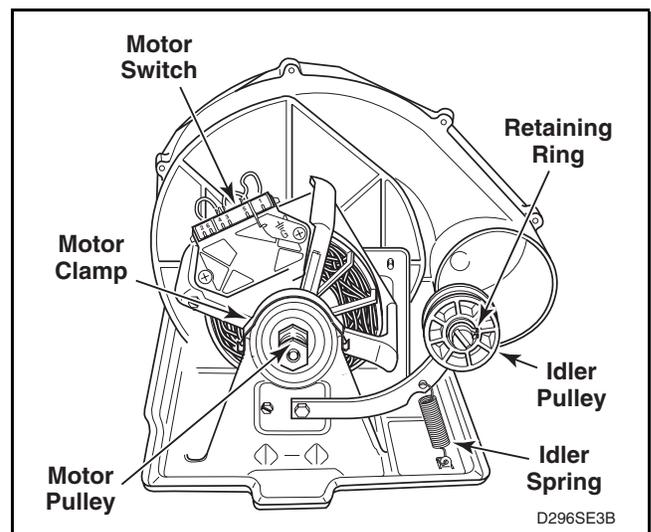

Figure 27
Refer to *Figure 27* for motor and idler pulley removal.
- (2) Pry two motor clamps off motor mounting bracket with screwdriver, then lift motor out of mounting bracket. Refer to *Figure 27*.